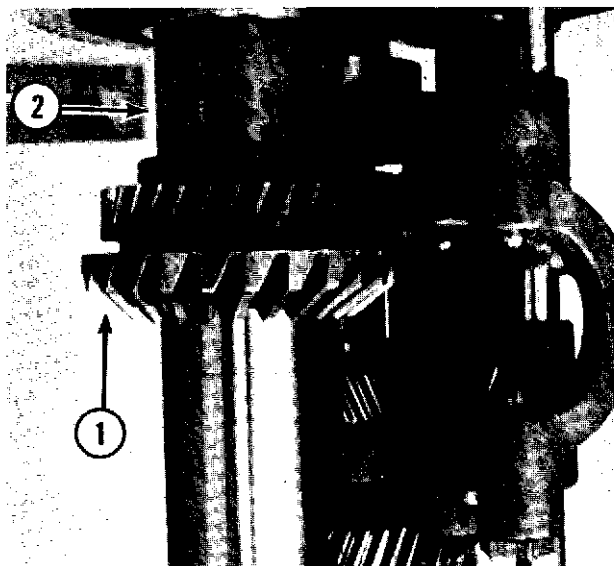

Fig. 11-25
- H. Install the key, gear cluster (1, Fig. 11-25) and spacer (2, Fig. 11-25).